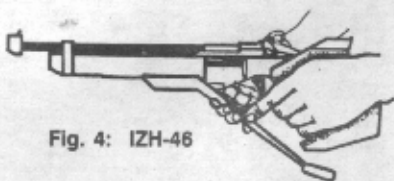

Fig. 4: IZH-46
C) Close the bolt by depressing the bolt lever down until the bolt is locked down with the bolt lever (See Fig 4). **Warning - do not close the bolt until are ready to fire, the safety on this air pistol is simply the bolt - if you have not closed the bolt the pellet will not be expelled from the barrel. Note - if you pull the trigger and the air has been compressed in the cylinder and the bolt is open (90 degrees from the firing plane) the pistol will discharge the compress air in the cylinder.**